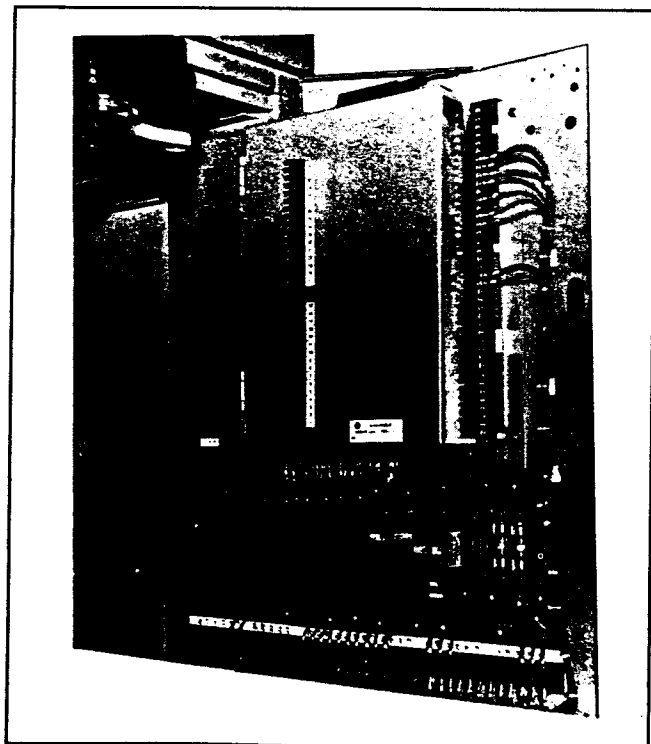

Figure 1.1 — IQ-2000, Model B, Installed in Ampgard Enclosure
1.0 General — The IQ-2000™ is a microprocessor-controlled, motor command system that is made available in a single, integrated package. It is designed for use with the Ampgard® Motor Control Assembly, and other types of starters. (See Figure 1.1.)